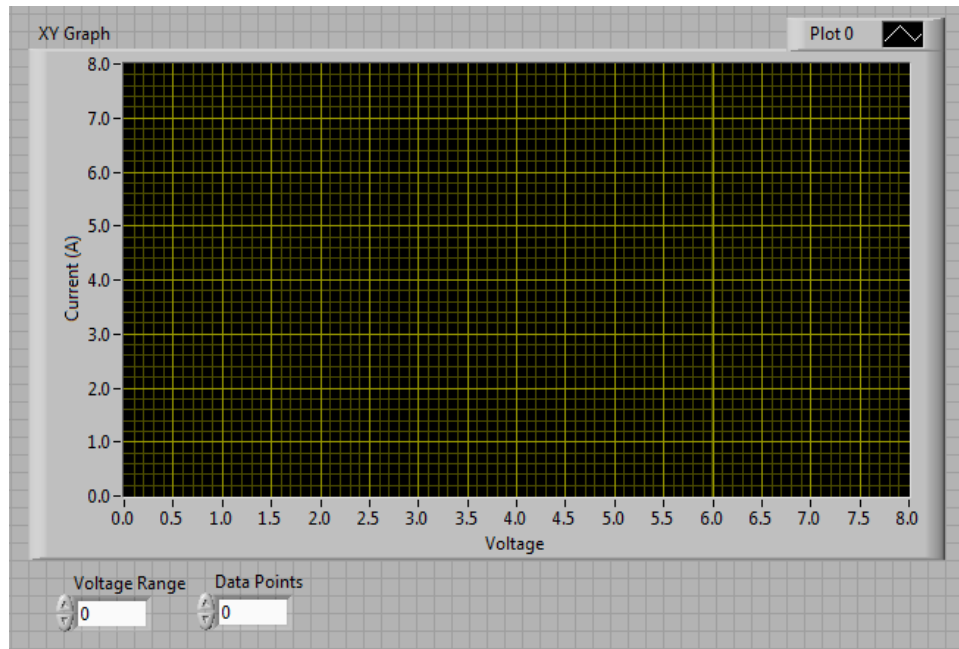

Figure 12. Front Panel Example Layout
- c. At this point your front panel should look like that shown in Figure 12.